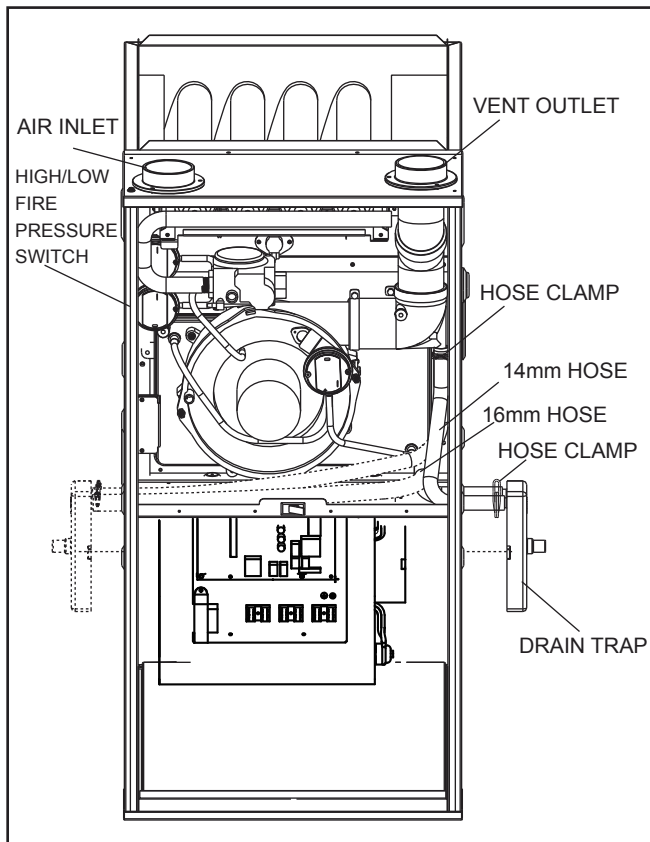

Fig. 11 - Upflow Installation, Top Venting
**1. Top venting (see Fig. 11)**
- Connect 16mm hose between collector box and trap and connect 14mm hose between elbow and trap. (see Fig. 11). Cut the excess hoses if necessary.